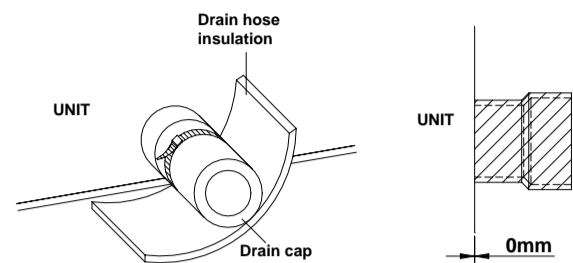

Fig.12
- Install the drain hose with downward gradient of 5~10° for easy drainage of the condensed water. Make sure that there is no leakage in the drain hose and joint, and these parts must be heat insulated as to avoid condensing on the surface. (Fig.12)